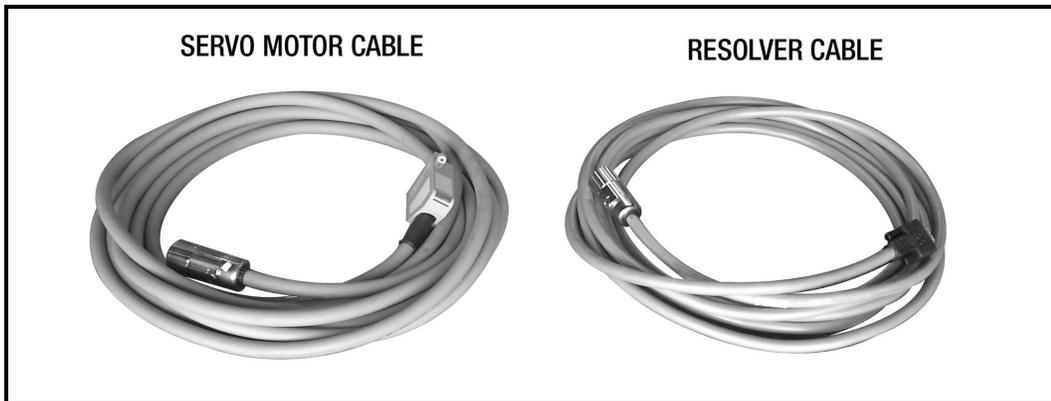

Figure 2.2 – PosiDrive Control Cable Set
NOTE: Use the Model Number above to order a correct Set of Cables. A complete set of Cables includes (1) Servomotor Cable and (1) Resolver Cable as shown in Figure 2.2 below. Cables can only be ordered in 3 meter increments (i.e. 3m, 6m, 9m, 12m, etc).